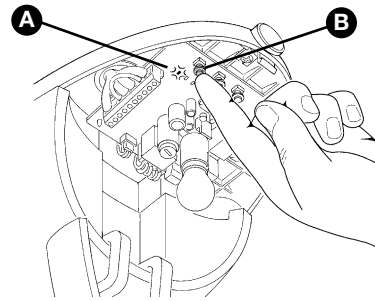

Figure 71
**1** Press button P1 (figure 71) on the control unit as many times as the number corresponding to the desired command, according to the following table:
- 1 Press the P1 button [B] (figure 71) on the control unit and hold it down.